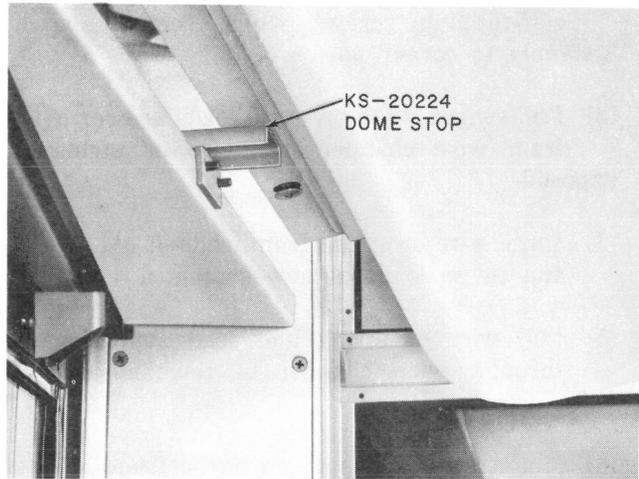

Fig. 9—KS-20224 Dome Stop Installed
- 12.02** Replace damaged or broken dome stops in accordance with Fig. 9.